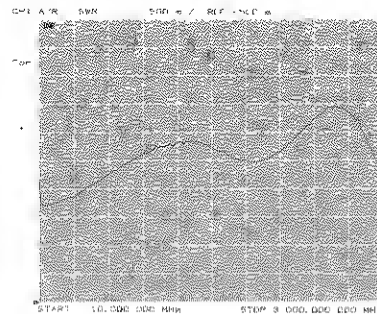

Figure 21. Plot of a mixer's RF port SWR.
10. The resulting display (figure 21) is the SWR of the mixer's RF port between 10 MHz and 3 GHz.